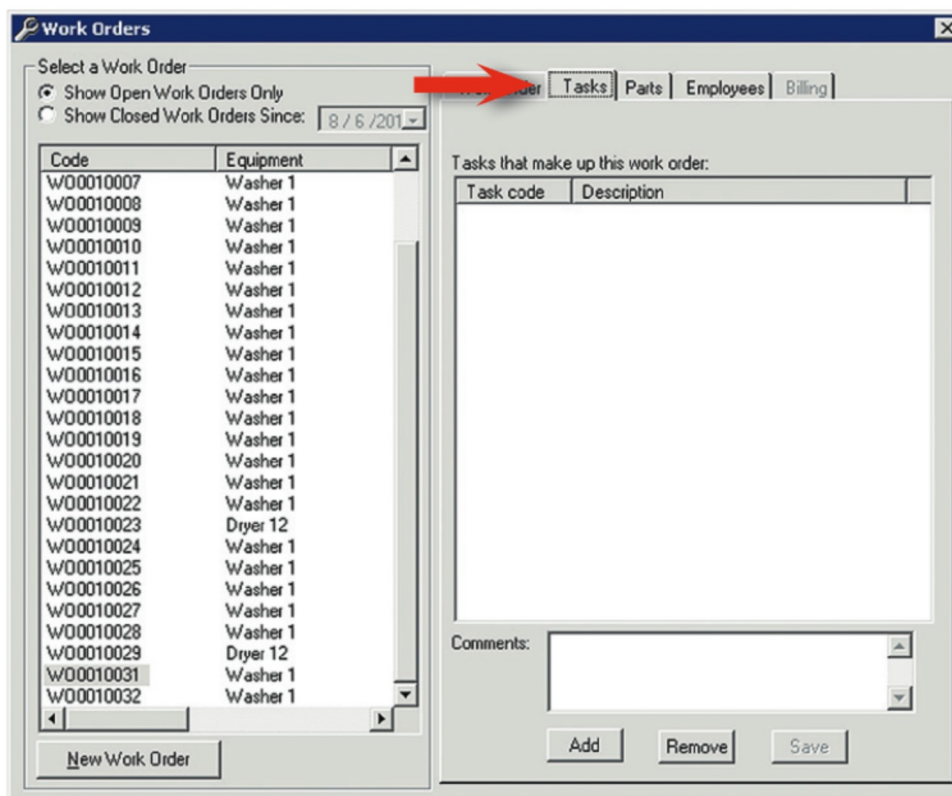

Figure 37. Work Orders: Tasks dialog.
3. Click the **Tasks** tab (see Figure 37).